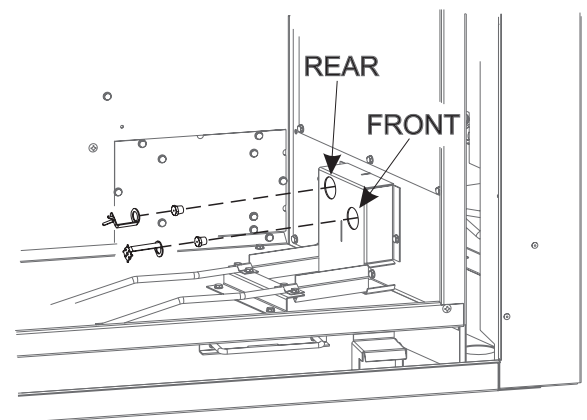

Figure 6
7. Locate the orifice marked "2.40." Use a 7/16 inch deep socket set to install orifice marked "2.40" onto rear orifice holder. Use needle-nose pliers, screw rear target onto rear orifice holder. See Figure 6.
8. Locate the orifice marked "48." Use a 7/16 inch deep socket set to install orifice marked "48" onto front orifice holder. Use needle-nose pliers to screw front target onto orifice holder. See Figure 6.